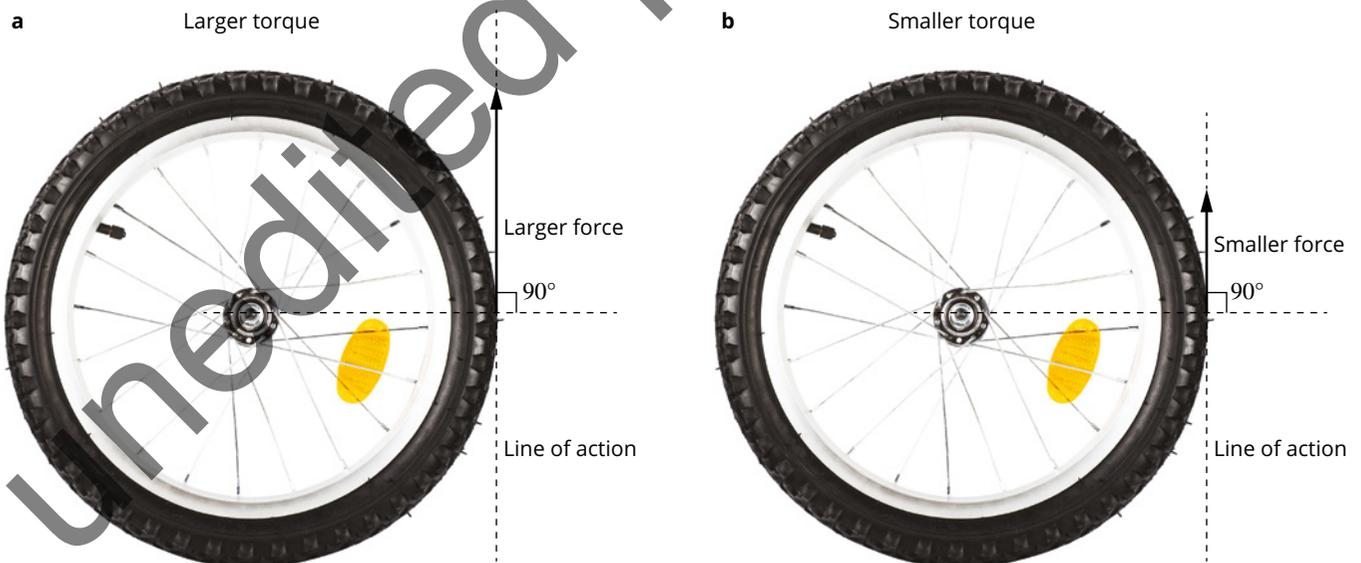

FIGURE 2.1.5 The magnitude of a force affects the torque on an object. The wheel in (a) will experience a larger torque than the wheel in (b).
The torque (τ) on an object is directly proportional to the magnitude of the force (F). If all other things are equal, a larger force will result in a larger torque (Figure 2.1.5).